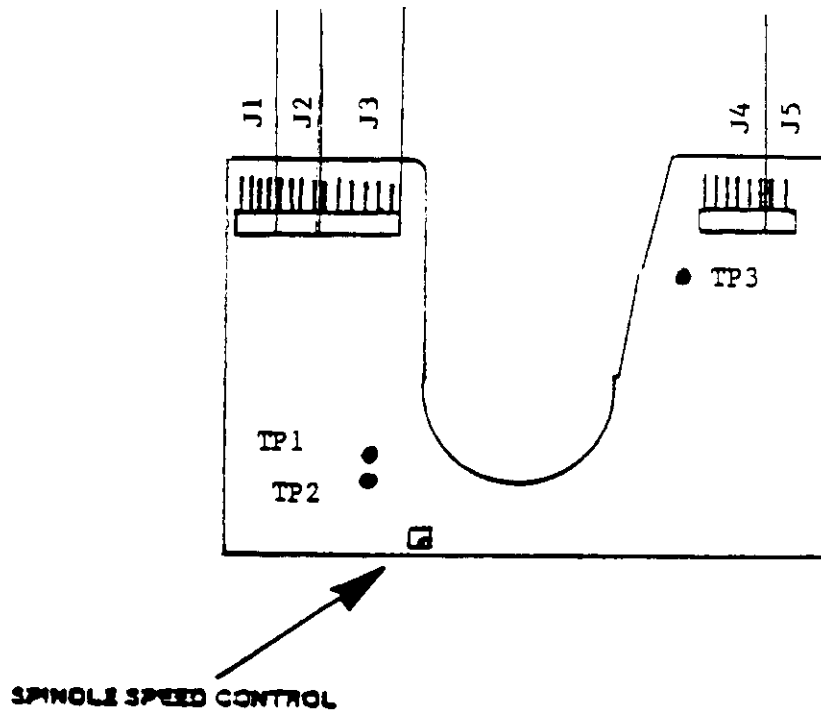

FIGURE 5-3
1. Adjust R15, located on the Servo circuit board, until the speed disk is stationary (Figures 5-3 and 5-4).